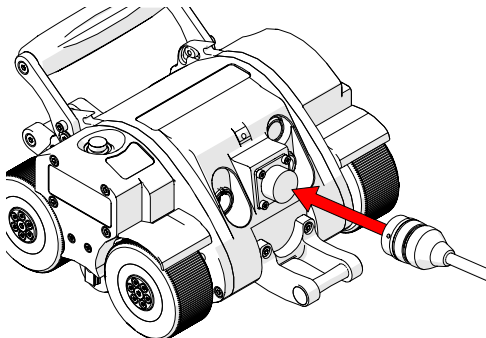

Fig. 22 - Connect to umbilical
1. Align the pins of the umbilical to the connector at the rear of the **SKOOT•X** (Fig. 22).